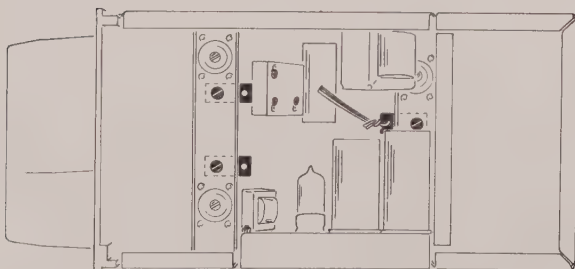

FIG. 2-1. Bottom view of Printer showing shipping screws and spacers.
- 2) Turn printer upside down as shown in Figure 2-1.
- 3) Locate three red-painted screws and their spacers (Figure 2-1).